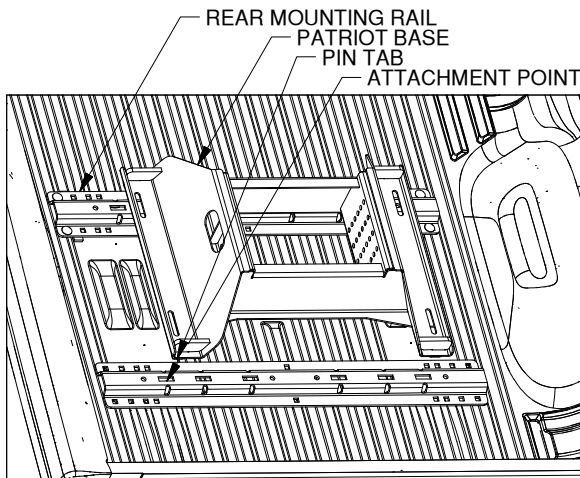

Figure C3: View into truckbed looking at tailgate.
- 1. Position the forward mounting rail.** For this step the base which will be used in the mounting rails is required. Place a mounting rail into the truck bed in front of the rear mounting rail. Place the base over the rail attachment points and carefully lower it until the pin tabs pass through the attachment points on the rear mounting rail. Attach the forward mounting rail to the forward mounting points on the base. The base should rest flat against the top of the rails. See figure C3. With the base still attached ensure that the forward rail is centered in the truck bed.